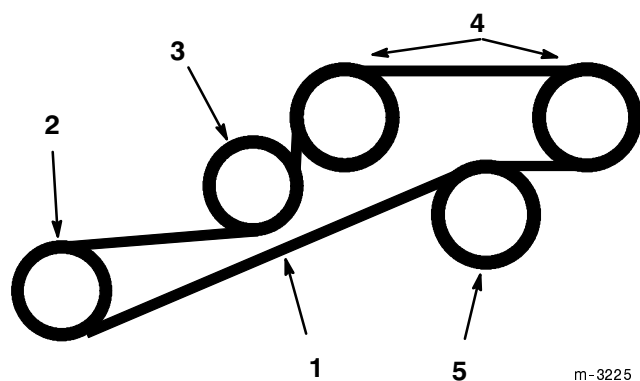

Figure 83
2. Push spring loaded idler down and remove traction belt from the engine, fixed idler and hydro pump pulleys (Fig. 83). Remove belt over clutch.
3. Install new belt over clutch and around engine, fixed idler and hydro pump pulleys (Fig. 83).
4. Push spring loaded idler down and align below traction belt. Release pressure on spring loaded idler (Fig. 83).